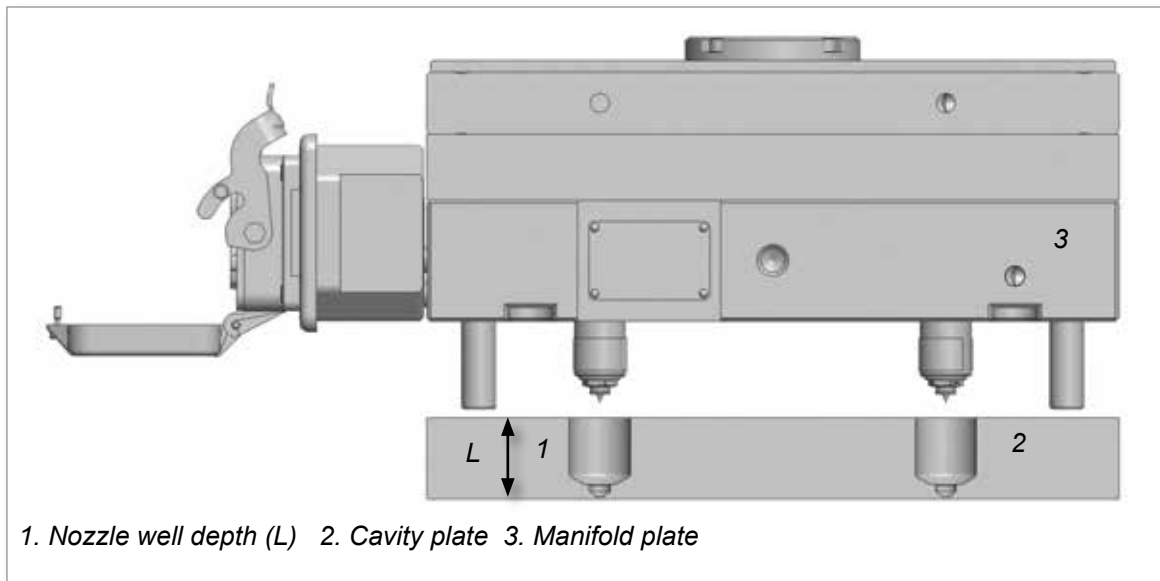

Figure 6-1 Nozzle depth
1. Check that the nozzle well depth (L) in the cavity plate is to Mold-Masters specifications. See Figure 6-1.